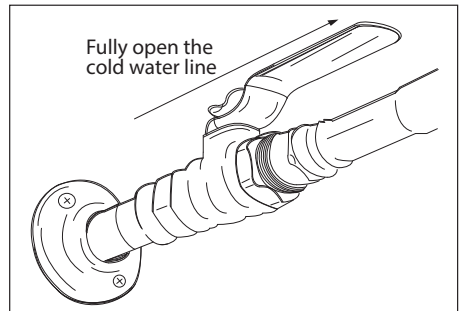

Figure 5: Fully open the cold water supply valve.
- 2 Turn the cold water supply back on. Fully open the cold water supply valve. See Figure 5.